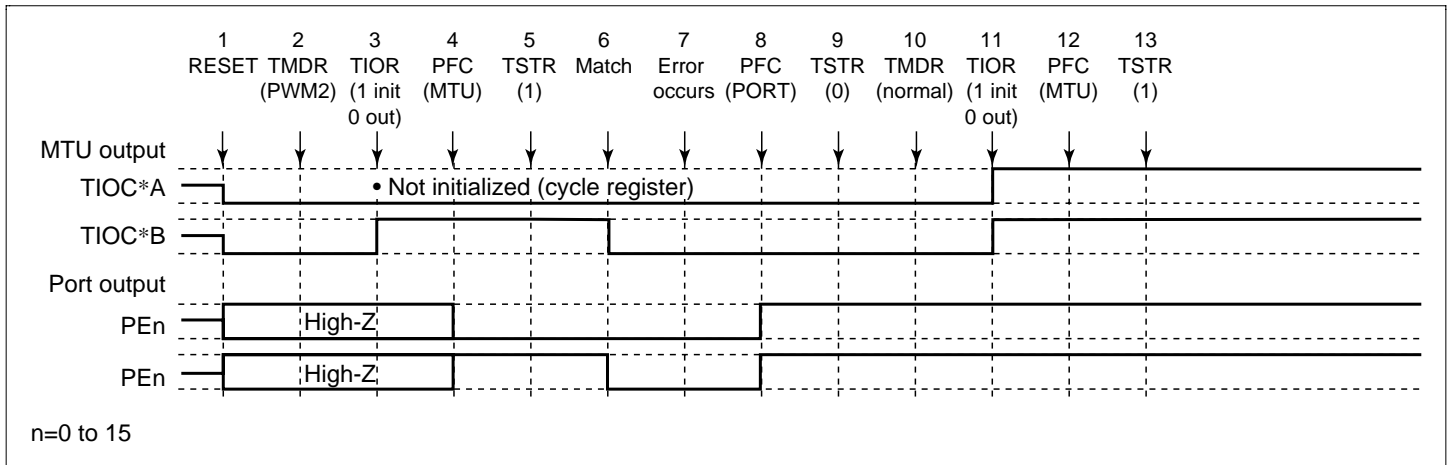

Figure 12.108 Error Occurrence in PWM Mode 2, Recovery in Normal Mode
(13) Operation when Error Occurs during PWM Mode 2 Operation, and Operation is Restarted in Normal Mode: Figure 12.108 shows an explanatory diagram of the case where an error occurs in PWM mode 2 and operation is restarted in normal mode after re-setting.
1 to 9 are the same as in figure 12.108.
- 1 to 9 are the same as in figure 12.108.